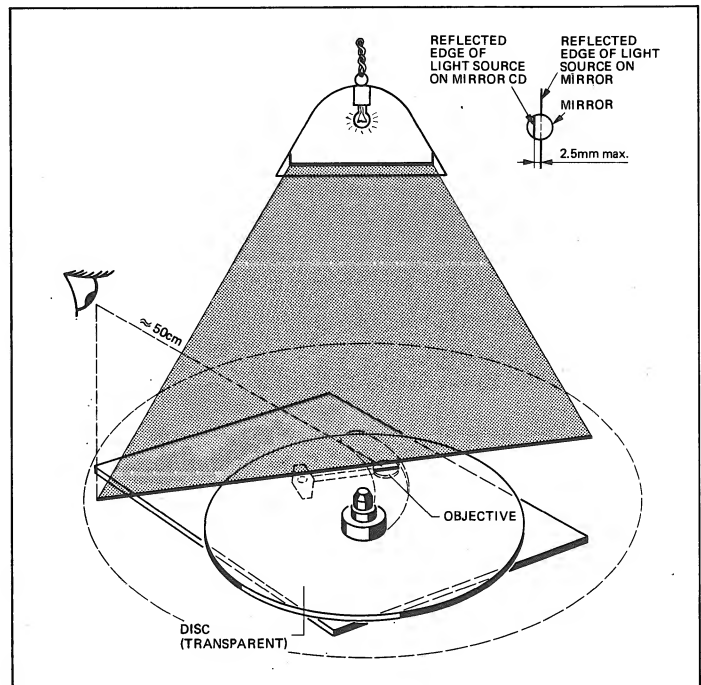
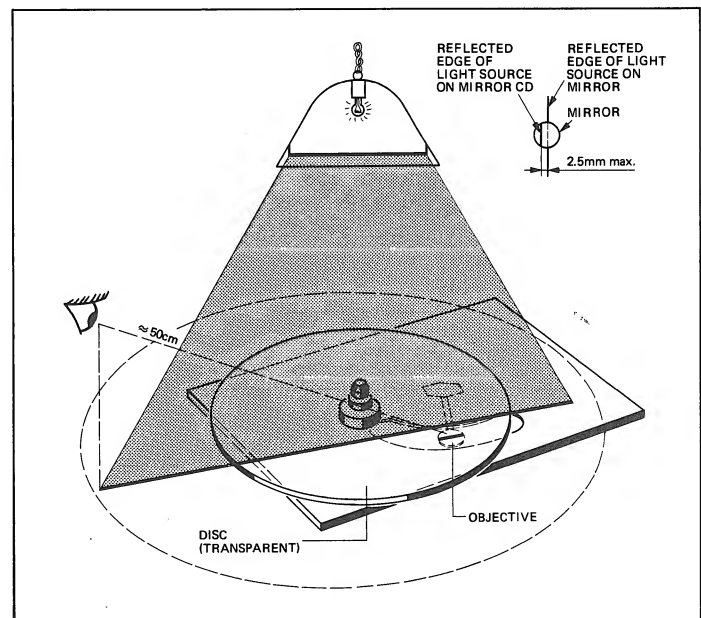

Fig. 4.11
Fig. 4.12
→ Fig. 4.11 / Fig. 4.12
- When observing the two shadow lines on the glass CD and on the mirror (Fig. 4.11), the lateral offset should not exceed 2.5 mm.
- Position the play mechanism in such a way that the shadow line runs perpendicular to the pickup arm but runs through the center of the mirror on the optical laser system (Fig. 4.12).